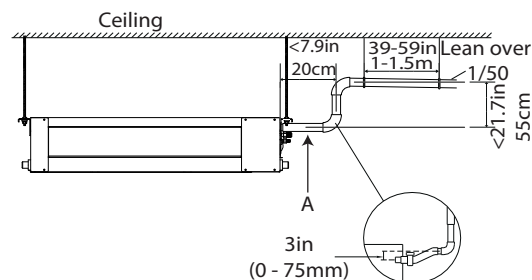

Fig. 28 — Condensate piping with a pump
- Ensure the highest point in the condensate piping is as close to the unit as possible (see Fig. 28).
- To prevent air bubbles, keep the drain hose horizontal or slightly upward. See letter (A) Figure 28.